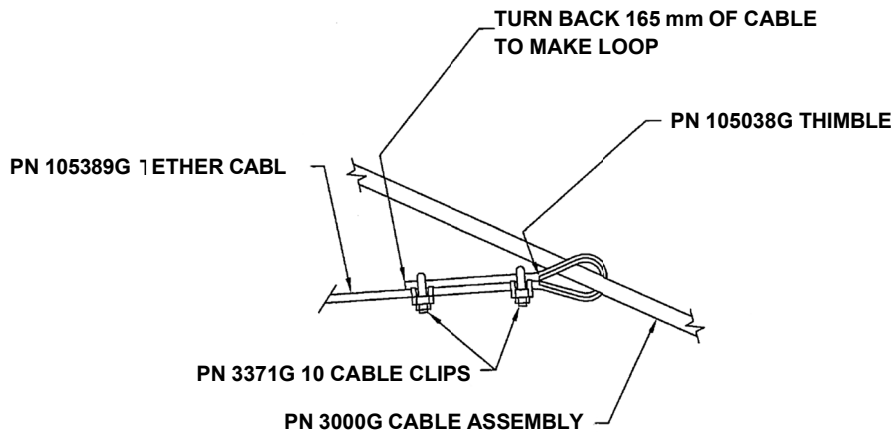

Figure 11
2. Thread Thimble (PN 105038G) and attach Tether Cable to Cable Assembly (PN 3000G). Loop back 165 mm of Tether Cable and attach two (2) Cable Clips (PN 3371G) to secure Tether Cable (see Figure 11 and 12).